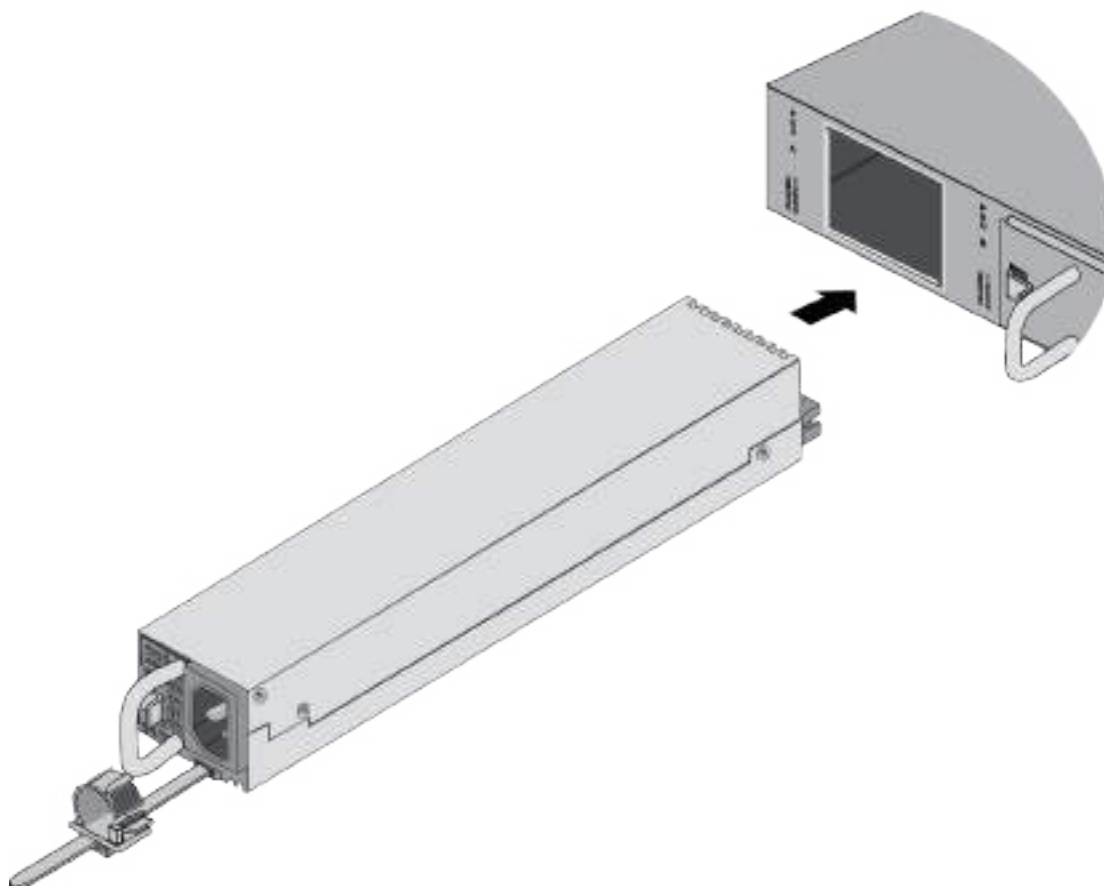

Figure 38. Sliding the PWR600 AC Power Supply into the Chassis
3. Carefully align the power supply in the slot and slide it into the slot. Figure 38 on page 86 shows the module aligned for the PSU A slot.